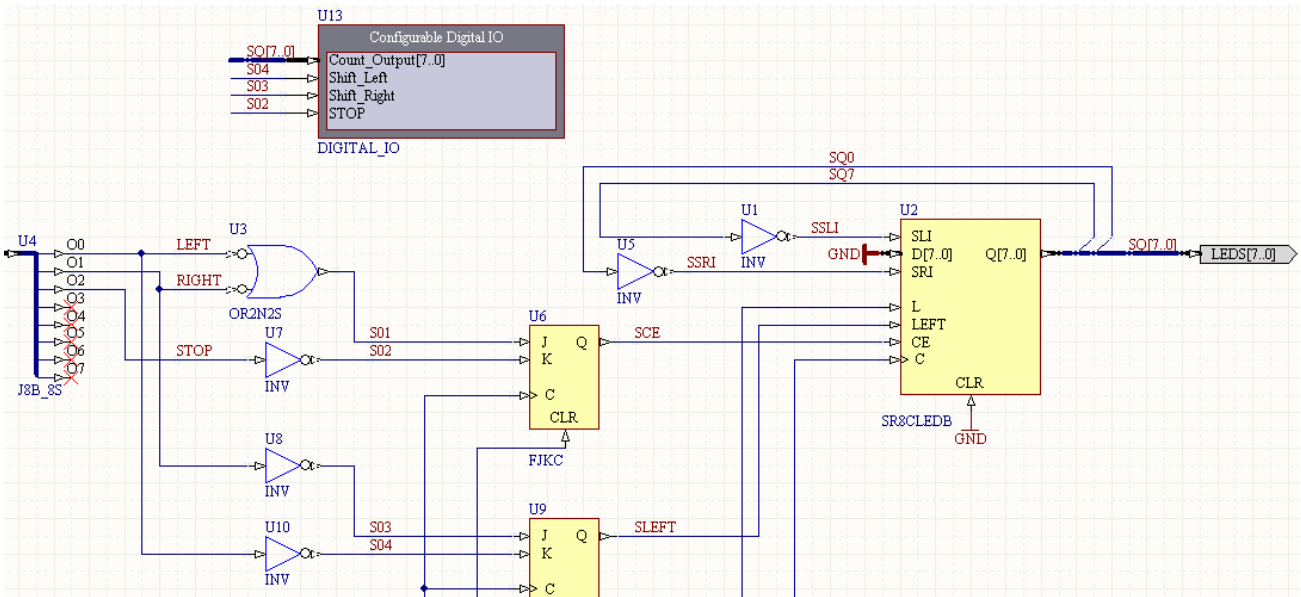

Figure 35. Digital IO instrument placed and wired into the simple counter design.
7. Wire up the instrument as shown in Figure 35. Notice that we avoid messy wiring by using net labels to tap off the signals we wish to monitor (`S04`, `S03`, `S02`). These net labels already exist for the points we wish to interrogate, so it becomes a simple matter of copy and paste. Notice that we are monitoring the signals after they have passed through their respective inverters. This is because the switches associated with the DIP-switch are active Low, so it would be better to see a light come on when they are set to the ON position, rather than go off.